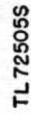

Figure 50.1 (Added.) Power Supply Unit RA-74-D, schematic diagram.
Power Supply Units RA-74-B, -C, RA-84-(*), and RA-94-A are electrically alike except for variations in power transformers T1, T2, and T3 (figs. 50, 51, and 52). The output of * * * input requirements vary. **Power Supply Unit RA-74-D** is electrically similar to Power Supply Units RA-74-B and RA-74-C except for the following: types of tubes used, d-c resistance of L2, number and values of resistors, value of plate supply filter input capacitor, values of bias filter capacitors, reference symbols, and transformer wiring connections (fig. 50.1). Also, the physical location of the resistors and capacitors in Power Supply Unit RA-74-D with serial numbers 1 through 390, Order No. 12618-Phila-47, is not the same as their location in Power Supply Unit RA-74-D with serial numbers 391 through 791, Order No. 6036-Phila.-48.
a. Power transformer T1 (fig. 50.1) is connected to the power source by line cord W1 and is fused by 2-ampere, 250-volt fuse F1. Terminals 8 and 9 of terminal strip E1 are connected when the receiver ON-OFF switch is closed, thus completing the primary circuit of the transformer. The average power consumed is 180 watts.